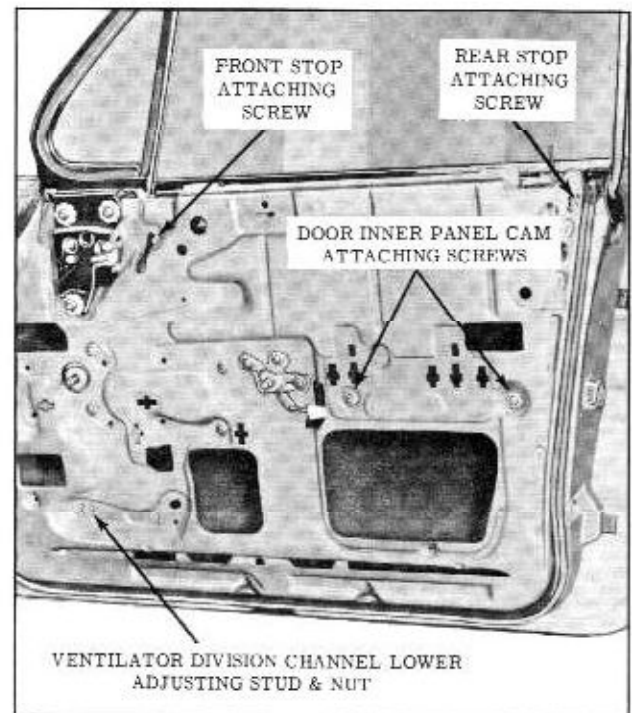

Fig. 17-35 Front Door Glass (Holidays)
lower window slightly and remove stops. (Fig. 17-35)
1. To correct a condition where glass is "cocked" in glass run channels, loosen inner panel cam attaching screws, adjust cam up or down as required and retighten screws. (Fig. 17-35)
3. To adjust lower portion of ventilator division channel for alignment with window assembly, lower door window and loosen ventilator division channel adjusting stud nut. Turn adjusting stud in or out or position lower end of channel fore or aft, as required; then, retighten adjusting stud nut. (Fig. 17-35)
5. To adjust limit of "up" travel of window assembly for proper contact with side roof rail weatherstrip, raise door window and through inner panel access holes loosen door window front and rear stop assembly attaching screws. Adjust stops up or down as required, then tighten attaching screws. (Fig. 17-35)